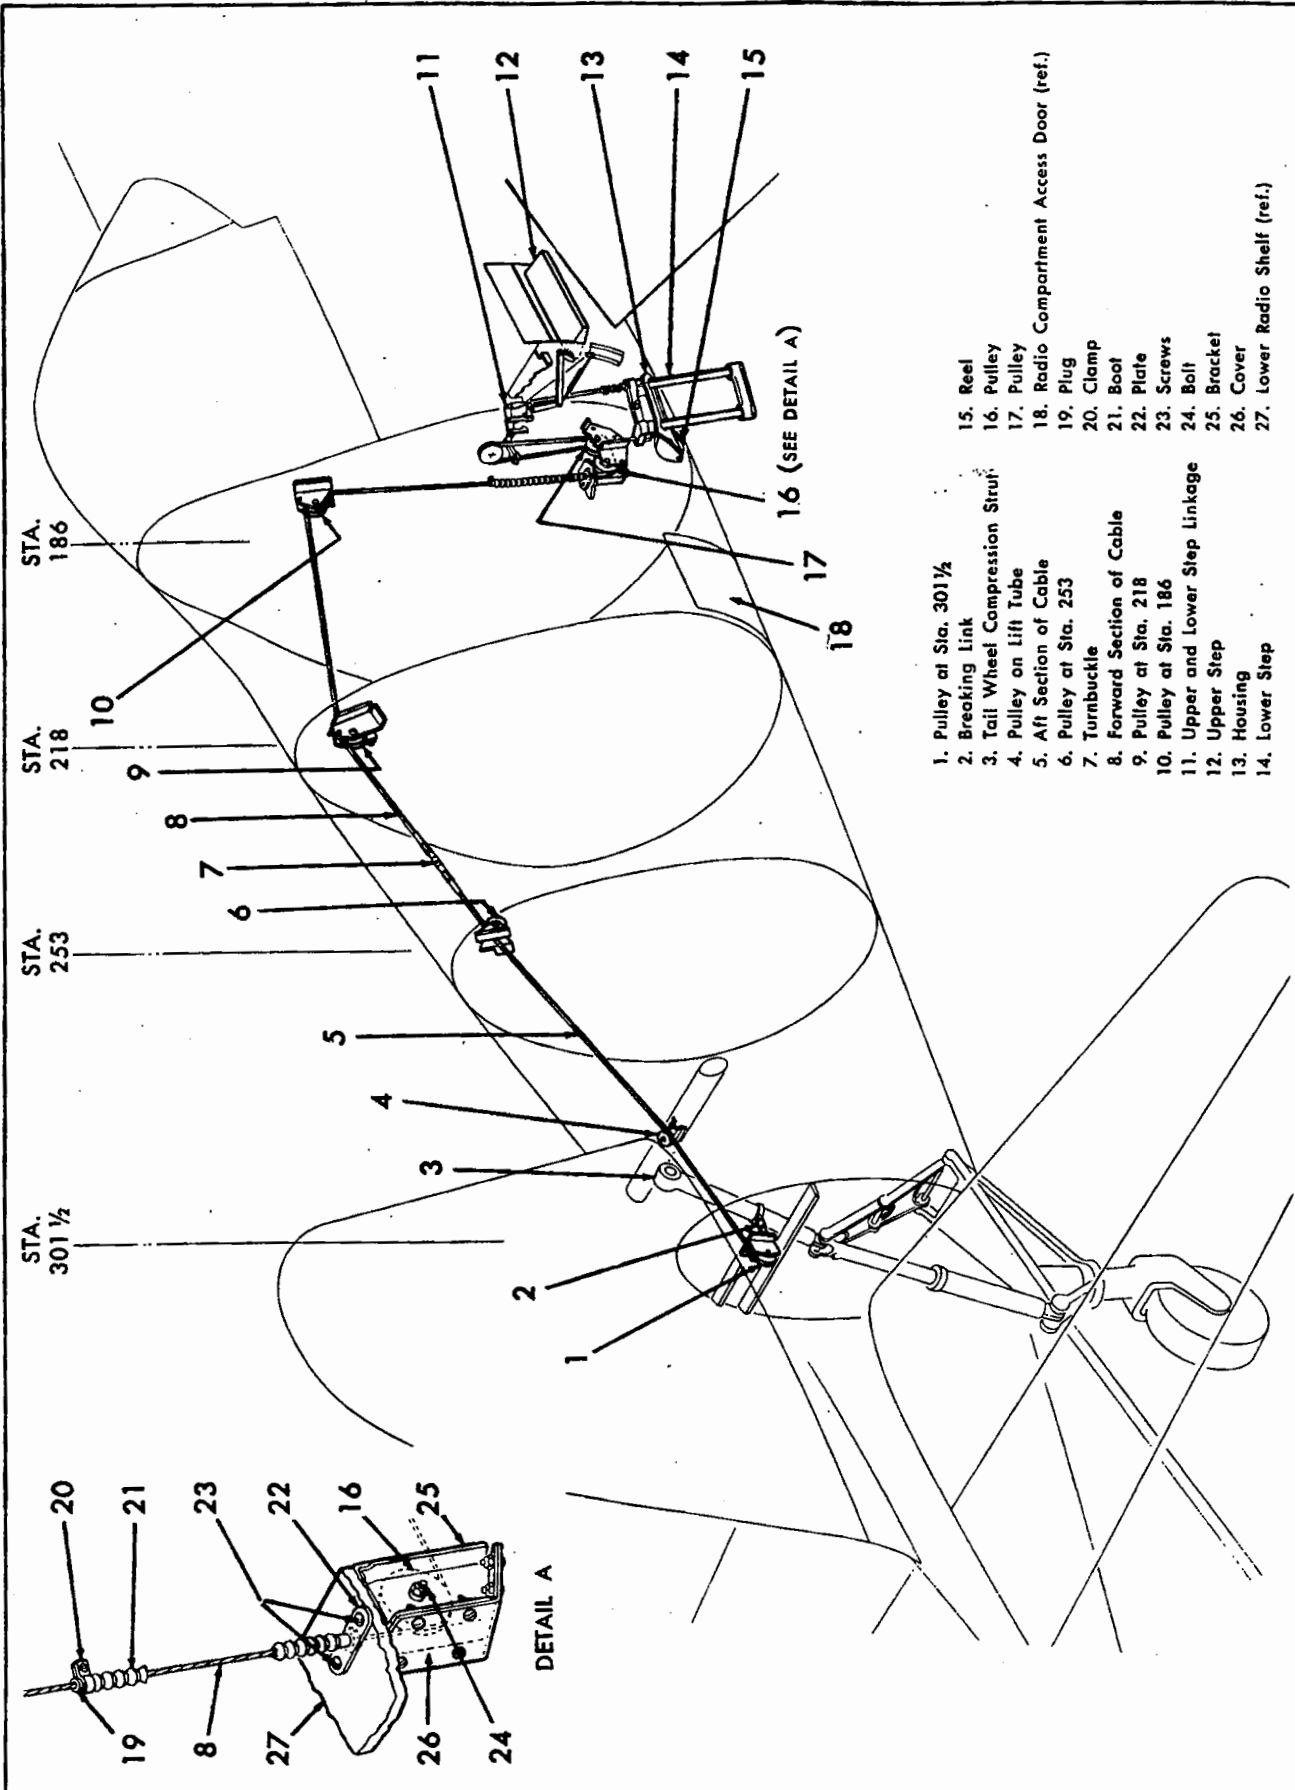

Figure 4-39. Cockpit Access Steps Reference Diagram.
4-263. DESCRIPTION. (See figure 4-39.) Two steps are provided on the right hand side of the fuselage for access to the cockpit. The action of the steps is controlled by the tail gear. When the tail wheel is retracted, the steps are retracted; when the tail wheel is extended, the steps are extended. With the tail wheel extended, it is possible to push the bottom step manually to the stowed position from outside the cockpit. This action automatically closes the top step. Likewise, it is possible to operate the top step by hand or by foot, thus automatically dropping the bottom step. A mechanic's step is provided on the left hand side of the fuselage at approximately station 170, to permit the mechanic to leave the cockpit while the pilot enters from the right hand side. A spring-loaded door, directly above the step is depressed by the mechanic's toe and the step pushed to the horizontal position by the mechanic's foot. A spring-loaded lever returns the step to the closed position when it is not in use.
4-269. REMOVING FORWARD SECTION OF CABLE. (Parenthesized numbers in steps a. through f. refer to callouts on figure 4-39.) With tail wheel extended and access steps in down position, work through tail wheel door and proceed as follows to remove the forward section of the cable:
4-273. REMOVING AFT SECTION OF CABLE. (Parenthesized numbers refer to callouts on figure 4-39.)
(See figure 4-39.)
a. Remove nuts and washers (28) from preloaded reel (27) and install reel on housing (29). Do not permit bolts to slip from reel thereby unwinding spring during installation.
b. Pass cable through tie bar (26) of slide assembly (31) and secure with pin (20).
c. Pass cable through lever assembly (17) and secure within linkage by means of pin (18).
d. Install one pulley (14) in guide. Install one pulley (callout 17 on figure 4-39) in bracket just forward of bulkhead 186, using bolts.
f. (Callouts in steps f. through j. refer to figure 4-39). Install cover (26) and bracket (25) on bracket assembly aft of station 186 using screws and pulley bolt (24).
g. Install boot (21) and plate (22) on floor (27) by inserting screws (23). Pass cable (8) through boot. Install clamp (20) and plug (19) on upper end of boot and cable, using screw. Refer to paragraph 4-301 for fumeproofing information.
h. Install pulleys (10) and (9) on brackets located on the upper part of bulkhead 186 and at station 218 by inserting screws.
j. Connect forward and aft sections of cable (8) and (5) at turnbuckle (7) and safety. Adjust cable tension in accordance with paragraph 4-282.